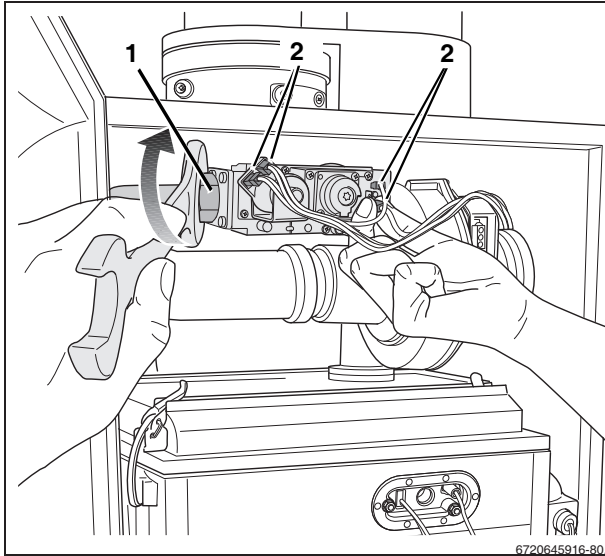

Fig. 79 Undoing the connections to the gas fitting
- Undo the gas fitting screw connection (fig. 79, [1]) and pull the 4 connectors (fig. 79, [2]) from the gas valve.